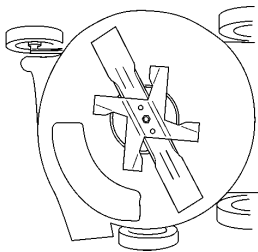

Figure 20
3. Tip the mower onto its right side (Fig. 20).
2. Tip the mower onto its right side (Fig. 20).